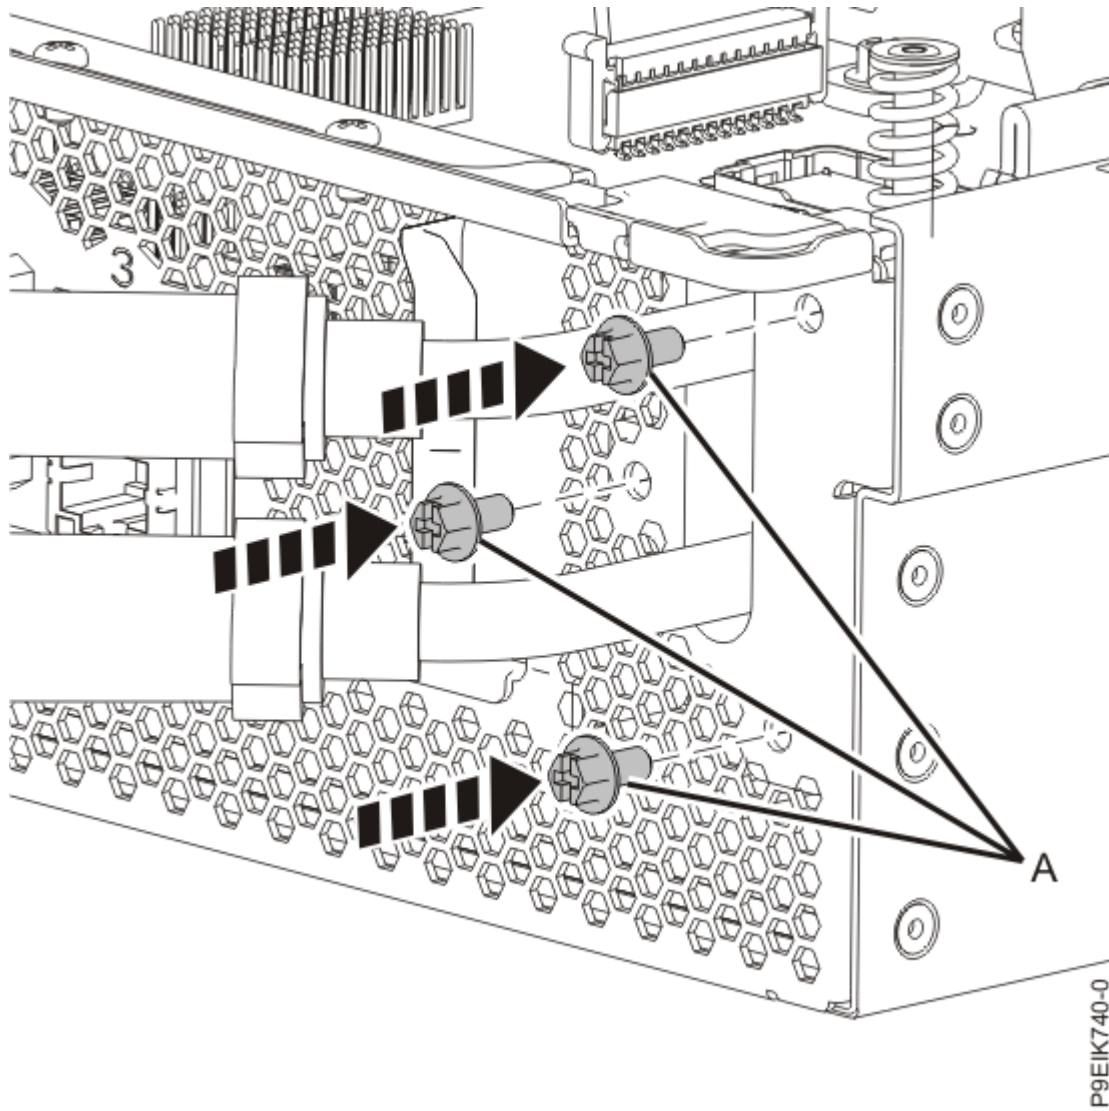

Figure 60. Replacing the rear water hose screws
13. Replace the three screws **(A)** that secure the water hoses to the rear of the system as shown in Figure 60 on page 62.